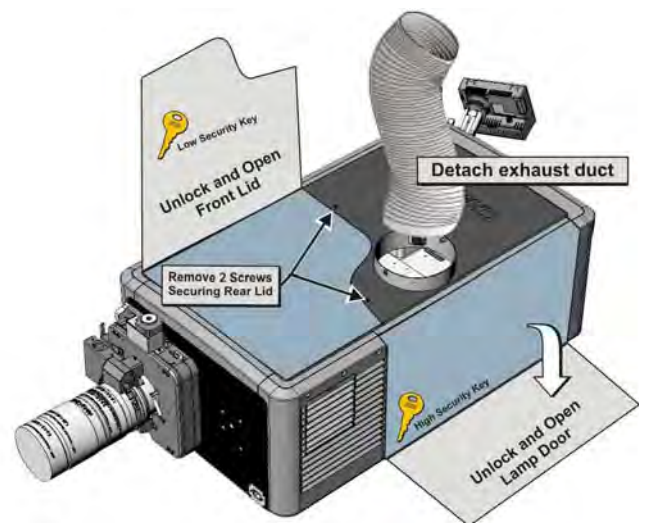

Figure 5-12 Rear Lid
6. Remove the two screws securing the rear lid to the chassis. **(Figure 5-12)**